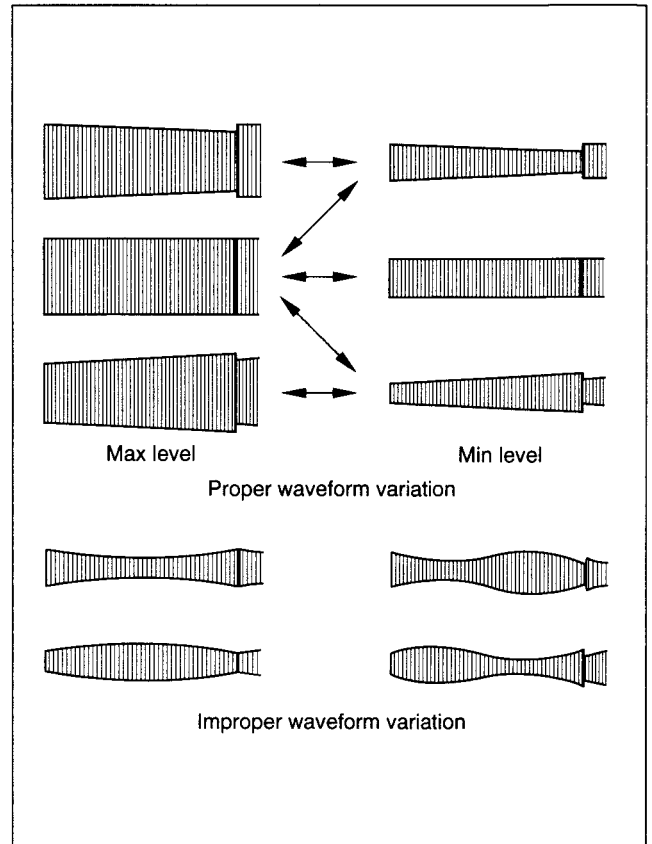

Fig. 2-3-1
- (1) Play back the alignment tape (A1).
- (2) Apply the external trigger signal to D.FF (E), to observe the V.PB FM waveform at the measuring point (D).
- (3) Press the channel buttons (+, -) simultaneously to enter the manual tracking mode. (This also brings tracking to the centre.)
- (4) Make sure that there is no significant level drop of the V.PB FM waveform caused by the tracking operation, with its generally parallel and linear variation ensured. Perform the following adjustments when required. (See Fig. 2-3-1.)
- (5) Reduce the V.PB FM waveform while pressing the channel buttons (+, -) during playback. If a drop in level is found on the left side, turn the guide roller of the pole base assembly (supply side) with the roller driver to make the V.PB FM waveform linear.